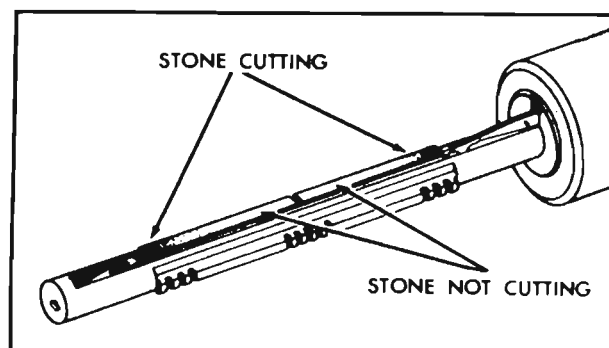

Fig. 42
- c. Use the truing sleeve sparingly. Excessive use of the truing sleeve causes undue wear. After a few reversals of the sleeve, stop the machine and visually inspect the mandrels and stones. High spots on the stone will be "loaded" (Fig. 42). Use an abrasive dressing stick to remove high spots. High spots on guide shoes will be bright and shiny. A few light strokes with a file will true most guide shoes. Truing sleeve thus is used as a straightedge and will last longer. Truing time is reduced. Truing sleeve should be as near as possible to size of hole to be honed, so that curvature of shoes fits the curvature of the hole.